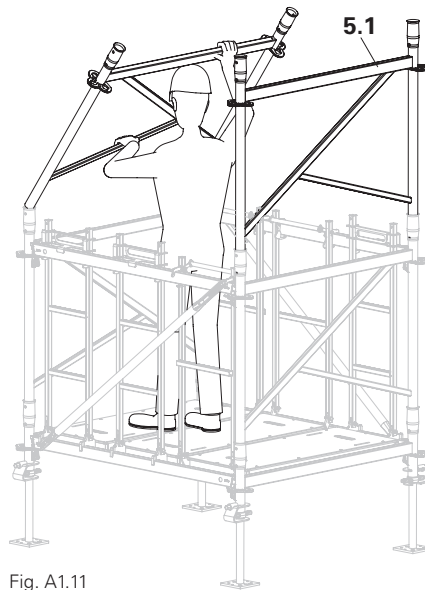

Fig. A1.11
1. Position frame (5.1) against the sleeves of the frame below at an inclination of approx. 45°. (Fig. A1.11)